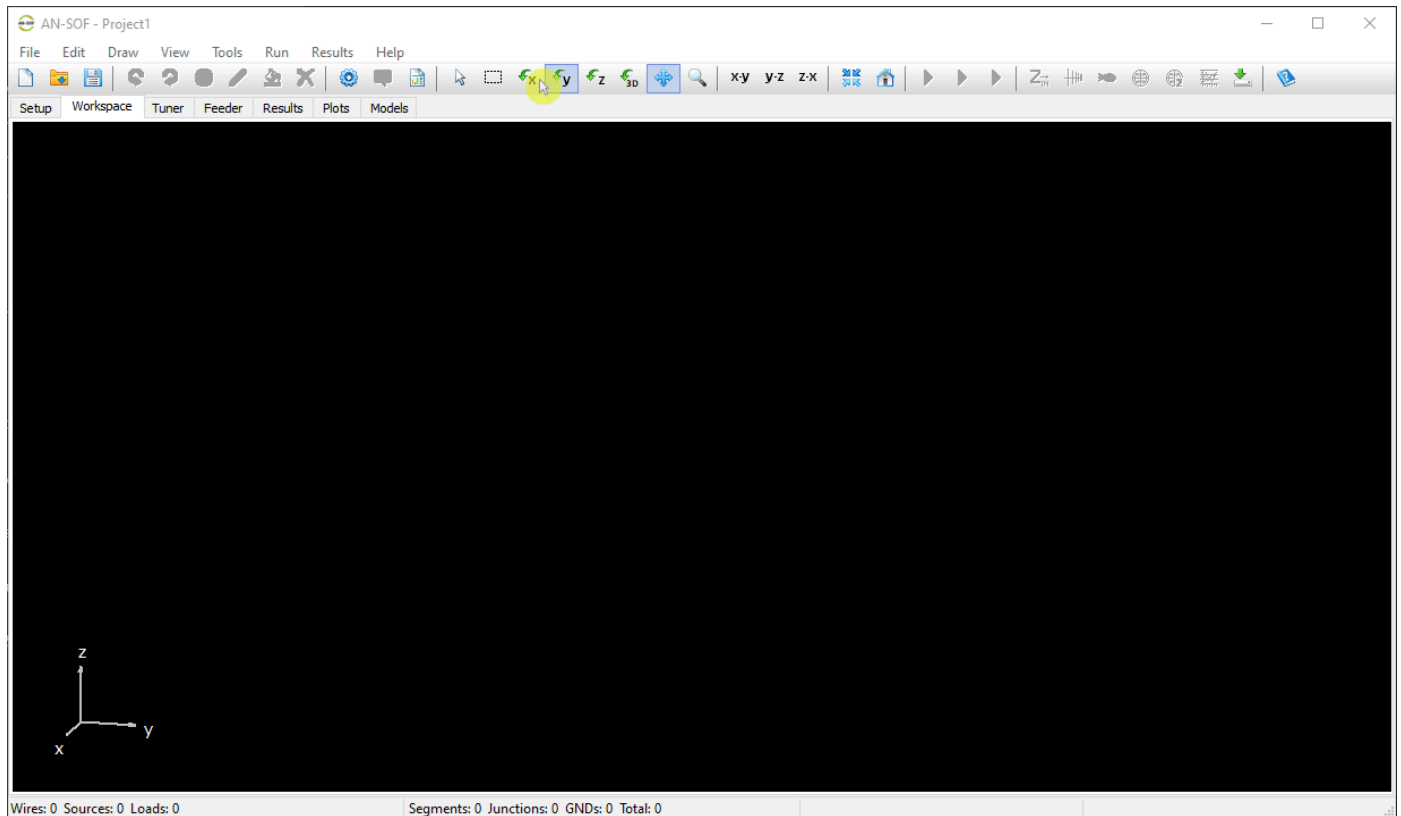

Fig. 1: Options for accessing different wire types for drawing in the workspace.
- **Main Menu** → View → Drawing Panel (see **Fig. 1**)